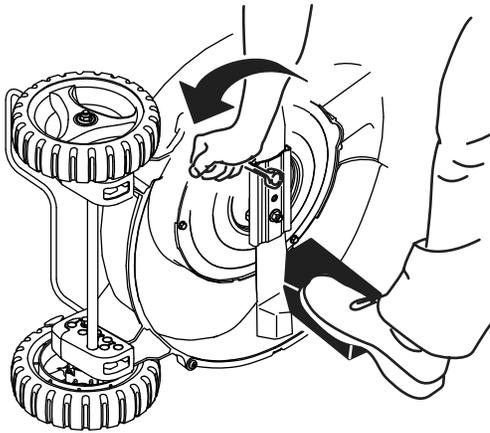

Figure 18
- A. To remove the blade, use a block of wood to hold the blade steady (see Figure 18). Make sure to grasp the end of the blade using a rag or a thickly padded glove.